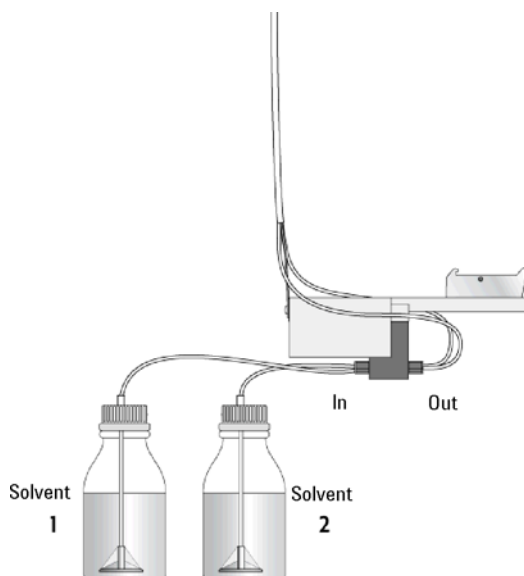

Figure 18 Installing the Solvent Tube Assembly to the Pump Holder
- 3 The Solvent line assembly is not preinstalled at the factory. The correct mounting is shown in Figure 18 on page 69. Select the end of the guide wire with the longer tubing ends and connect the guide wire with the screw M4 x 8 and the corresponding serrated lock washer to the back side of the module. Note the guide groove, which orients the wire.